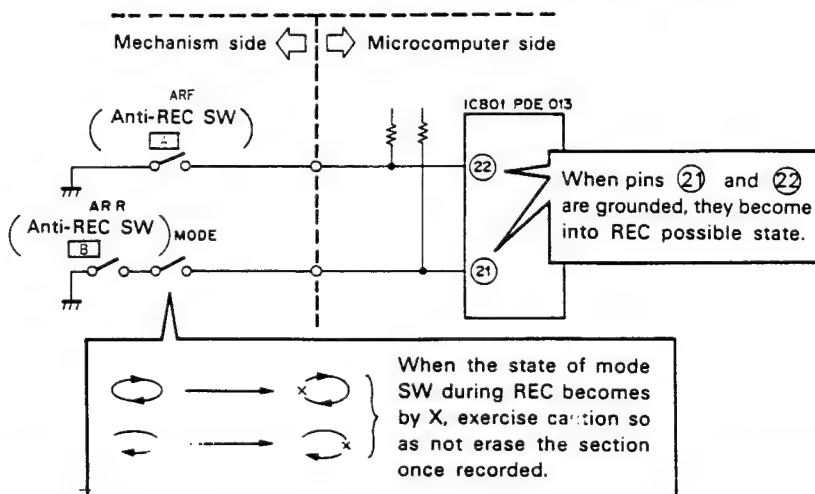

Fig. 10-6-3
When reading the anti-REC SW state, it is performed during the start of REC. (The microcomputer does not observe thereafter). These relationships are shown in Fig. 10-6-3.
In Fig. 10-6-3, when the erroneous erasure prevention claw is broken, pins ⑳ and ㉑ of the microcomputer become "H" due to the anti-REC SW being off, and therefore does not become into the REC state.